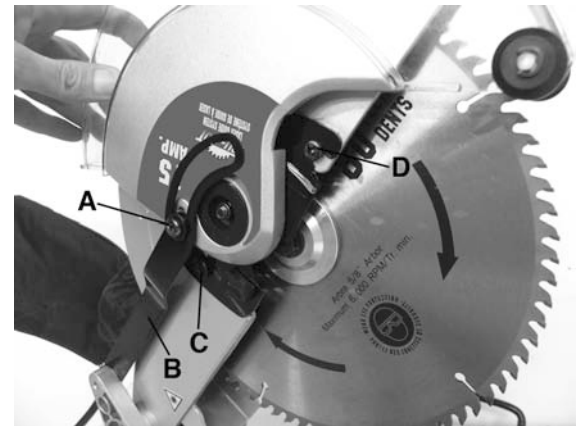

FIGURE 17
4. Remove the pan head screw, collar and washers (A) Fig.17 and swing the pivot arm (B) backwards as to not interfere with the removal and installation of the blade.
5. Pivot blade guard upwards as shown, remove special screws (C & D) Fig.17 which secure the plate under the rotating blade guard. Remove blade guard from saw.